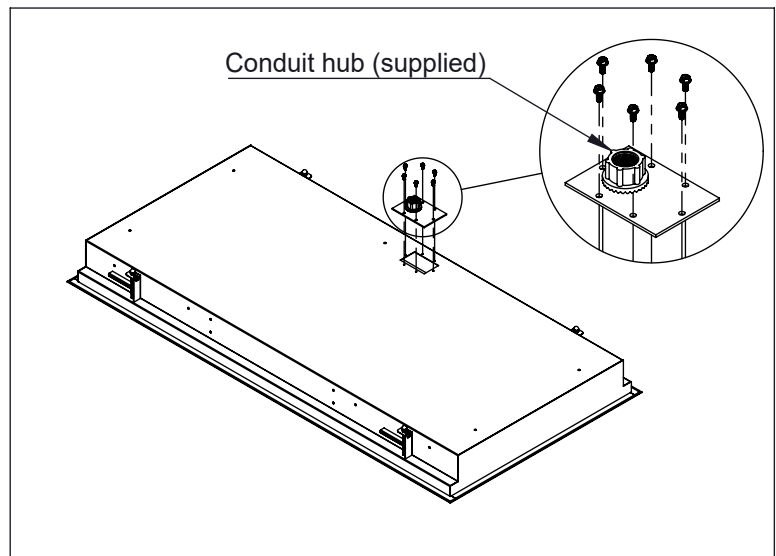

Figure 4
4. Remove access cover panel (Fig. 4) and install the conduit (by others) to the conduit hub provided on the access cover. Pull the supply wiring conductors through the conduit hub and into the housing.
6. Reattach access cover panel (Fig. 4, previous page).